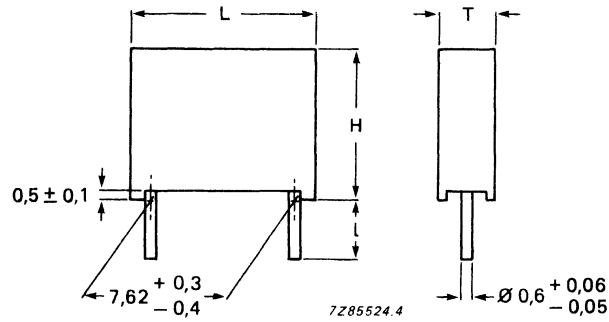

Fig. 2 Physical dimensions; 2222 371 range.
Table 3 U_R (DC) = 63 V; max. AC voltage = 40 V; Fig. 2
Table 3a $U_R(\text{DC}) = 63 \text{ V}$; max. AC voltage = 40 V; Fig. 2 and Fig. 13
Table 4 $U_R(\text{DC}) = 100 \text{ V}$; max. AC voltage = 63 V; Fig. 2
Table 5 $U_R(\text{DC}) = 250 \text{ V}$; max. AC voltage = 160 V; Fig. 2
Table 4a $U_R(\text{DC}) = 100 \text{ V}$; max. AC voltage = 63 V; Fig. 2 and Fig. 13